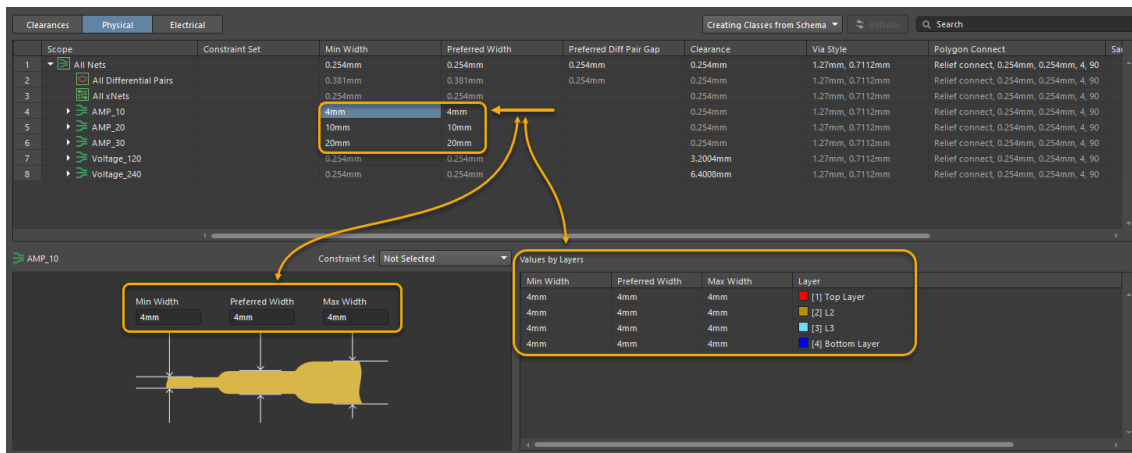

Figure 11. Constraint Manager - Physical View adding width values
37. Select the Min Width or Preferred Width cells. Then, add the additional width values at the bottom of the window, as seen in Figure 11.